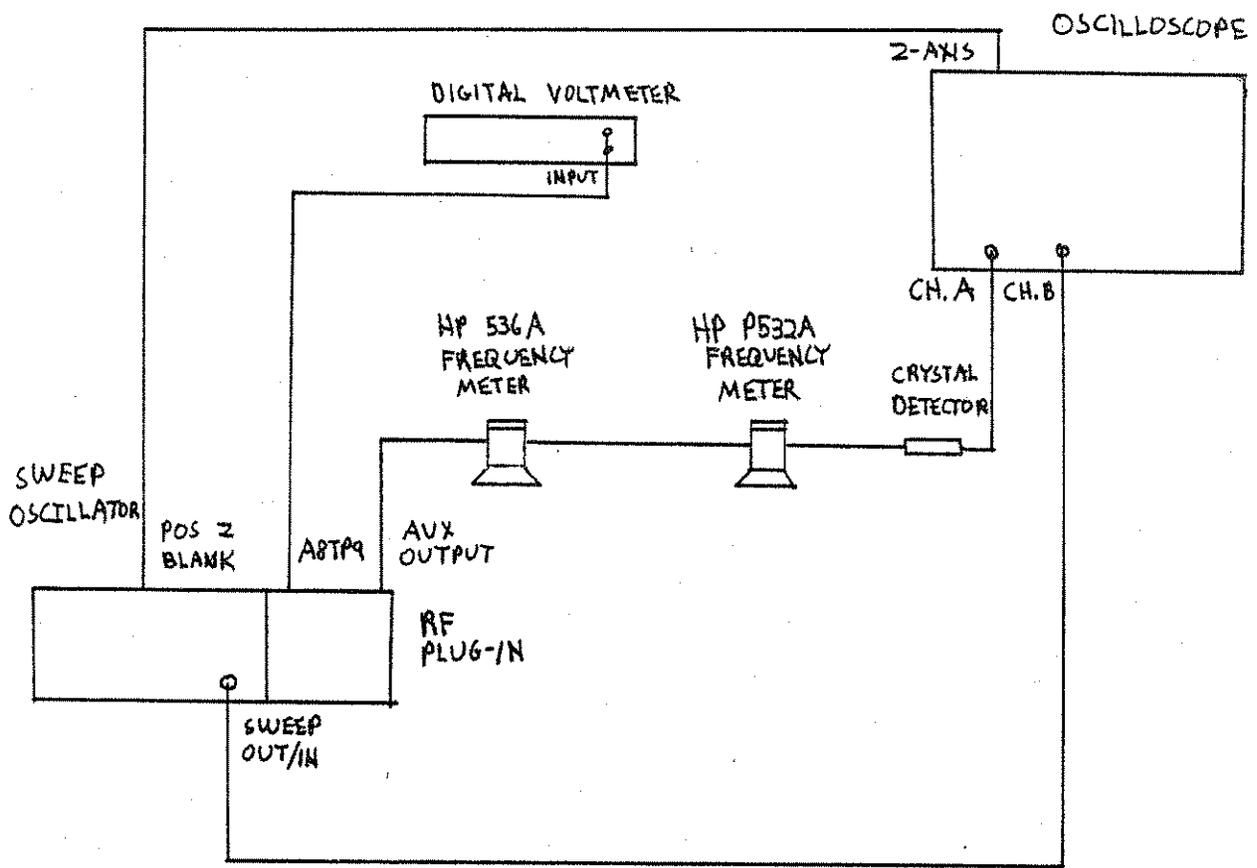

Figure 5-16. YO Delay Compensation Test Setup
1. Connect the equipment as shown in figure 5-16. On the 8350A, press [INSTR PRESET] and allow the equipment to warm up for 1 hour.
6. Adjust A8R18 (Z) for a DVM reading that is equal to the same reading as was noted in step 4. Remove the DVM test leads.